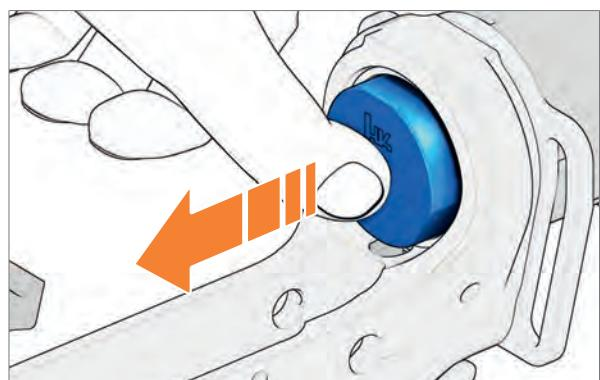

Fig. 94: Pull out buffer and recoil spring
4. Pull buffer and recoil spring forwards out of the buttstock (Fig. 94).